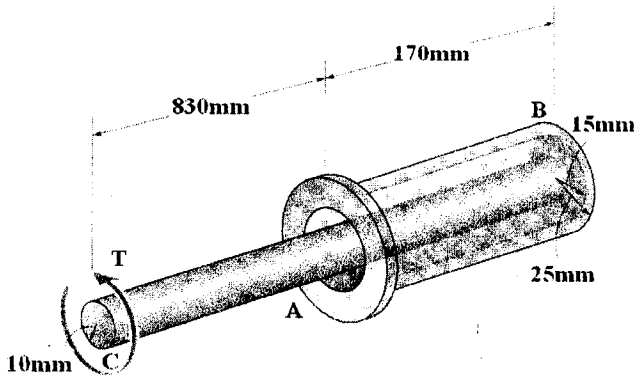

Fig. 1
1. A shaft and tube compact system is designed as shown in Fig. 1 where the surface  $A$  is fixed. The outer tube is made of steel with a shear modulus of  $G = 75 \text{ GPa}$  and the inner rod is made of aluminum with a shear modulus of  $G = 25 \text{ GPa}$ . If the maximum allowable shear stress is  $\tau_{\text{allow}} = (500/17\pi) \text{ MPa}$ . Please determine (a) the maximum torque  $T$  that can be applied at surface  $C$ ; (b) with this maximum applied torque, what is the twisted angle at the end surface  $B$ ; and (c) the maximum shear stress at the surface  $C$ . (Points will be given **only** if using free body diagram to analyze the problem). (25%)